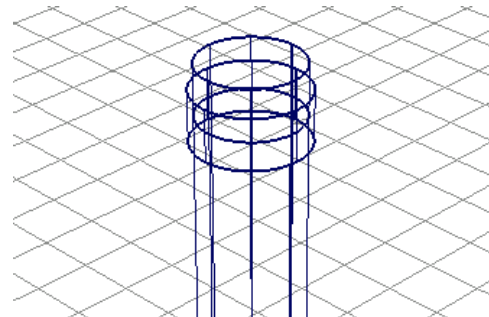

Figure 2-122 Model after scaling the base of the eraser
4. Enter **100, 100, 50** in the promptline and press ENTER; the base of the eraser is scaled, as shown in Figure 2-122.